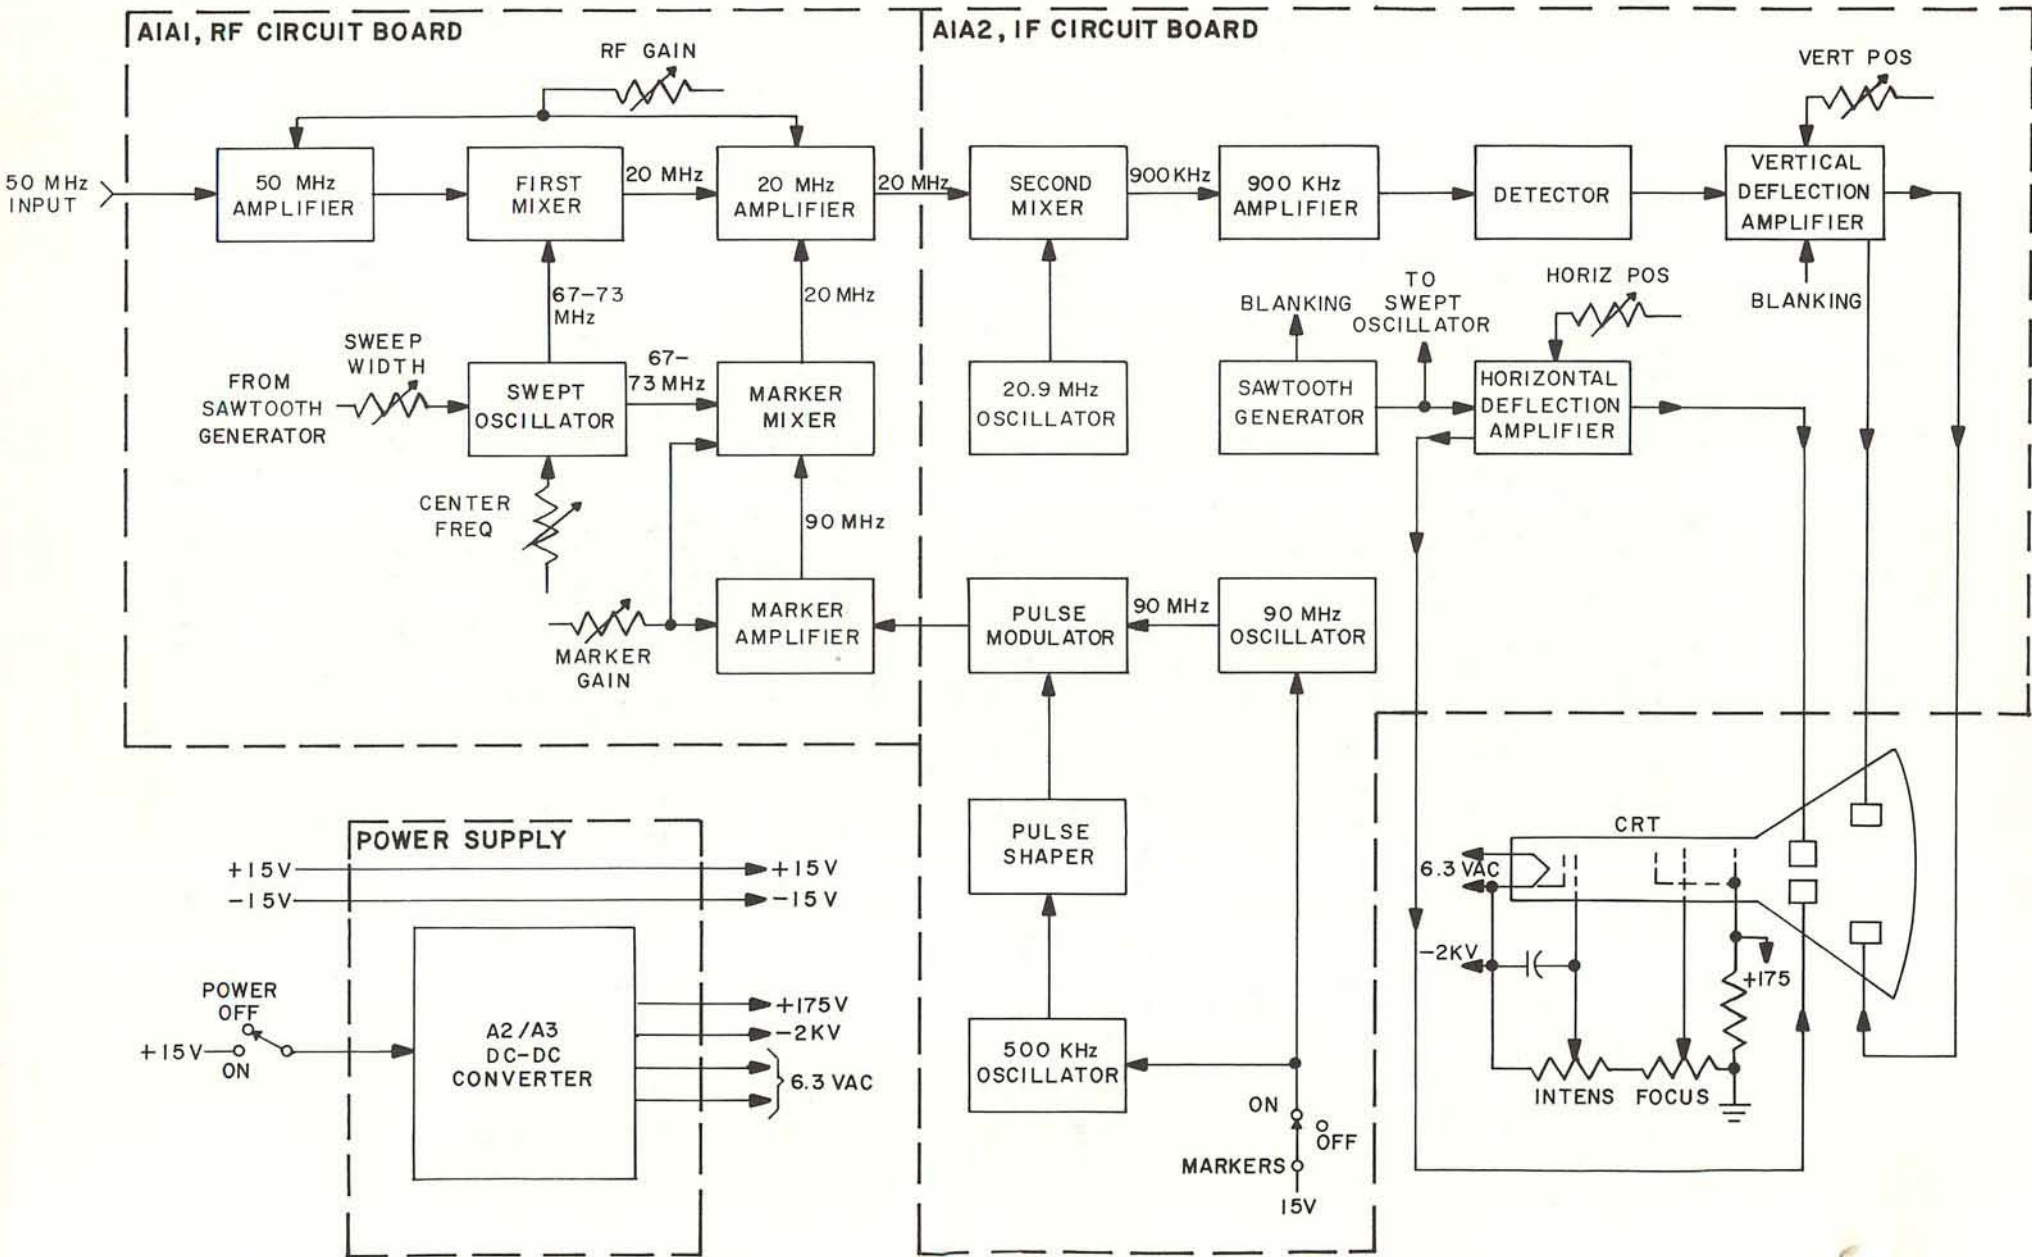

Figure 4-1. Functional Block Diagram
4-2. The Model 1161-S(A) Spectrum Display Unit is employed to present a visual display of signals appearing in a 6 MHz passband centered at 50 MHz. Although the unit is primarily designed for use with Microdyne telemetry receivers and playback monitors having a first i-f of 50 MHz, it may also be used with similar equipment exhibiting a 50 MHz i-f output meeting in the input requirements specified in table 1-1. Converters are available for use with the 1161-S(A) to convert other i-f signals to 50 MHz for display purposes. A block diagram of the unit is shown in figure 4-1. Paragraph 4-3 presents a block diagram description of the 1161-S(A) and paragraph 4-8 provides a detailed theory of operation.
4-3. FUNCTIONAL DESCRIPTION (See figure 4-1)